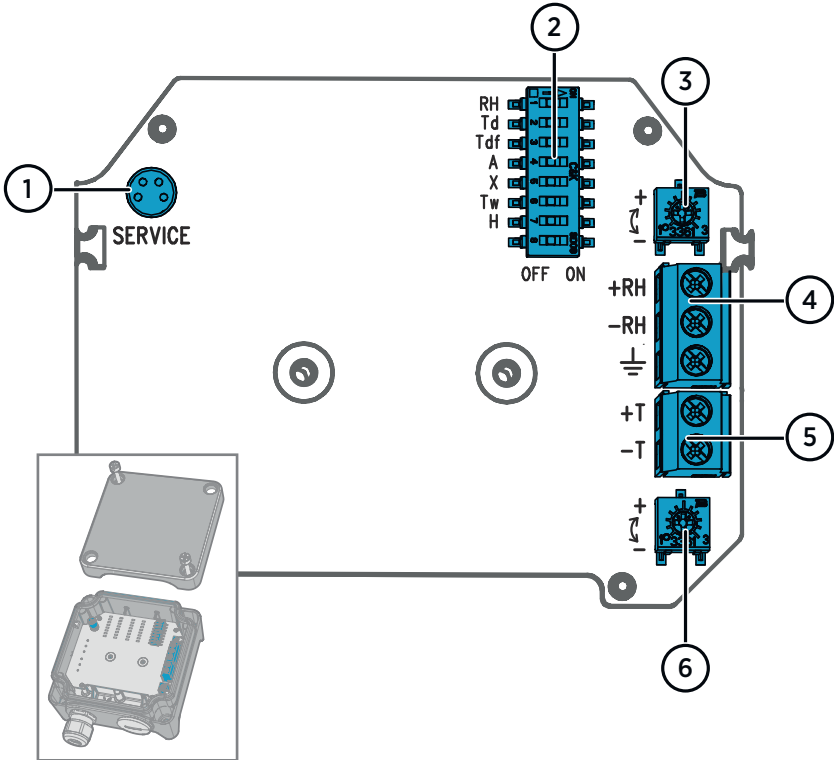

Figure 4 HMD60 Transmitter Board: Service Port, DIP switches, Trimmers and Screw Terminals
**i** The HMD62 board (shown in Figure 4 \(page 9\)) includes options for both humidity and temperature output. The TMD62 board includes only components limited to temperature output options. See Wiring \(page 16\) for more information.